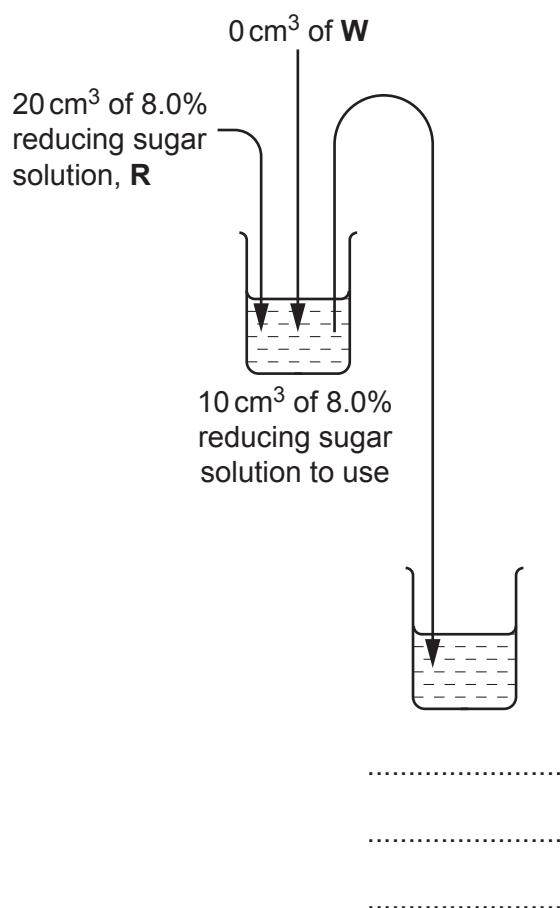

Fig. 1.1
- (a) (i) Complete Fig. 1.1 to show how you will prepare your serial dilution.
Fig. 1.1 shows the first two beakers you will use to make your serial dilution. You will need to draw **three** additional beakers.
- step 2 Prepare the concentrations of reducing sugar solution as shown in Fig 1.1.
- step 3 Label test-tubes with the concentrations shown in Fig. 1.1.